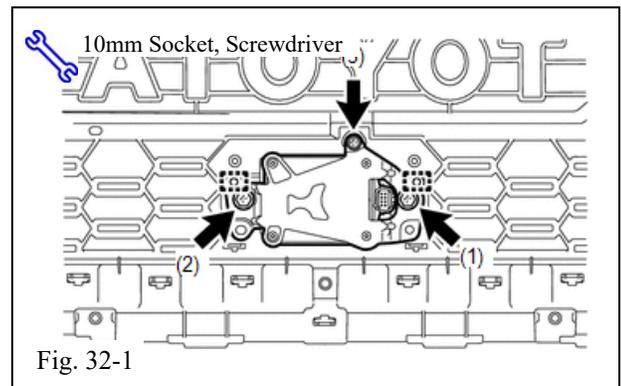

Fig. 32-1
32. Install Millimeter Wave Radar Sensor Assembly. (Fig. 32-1)